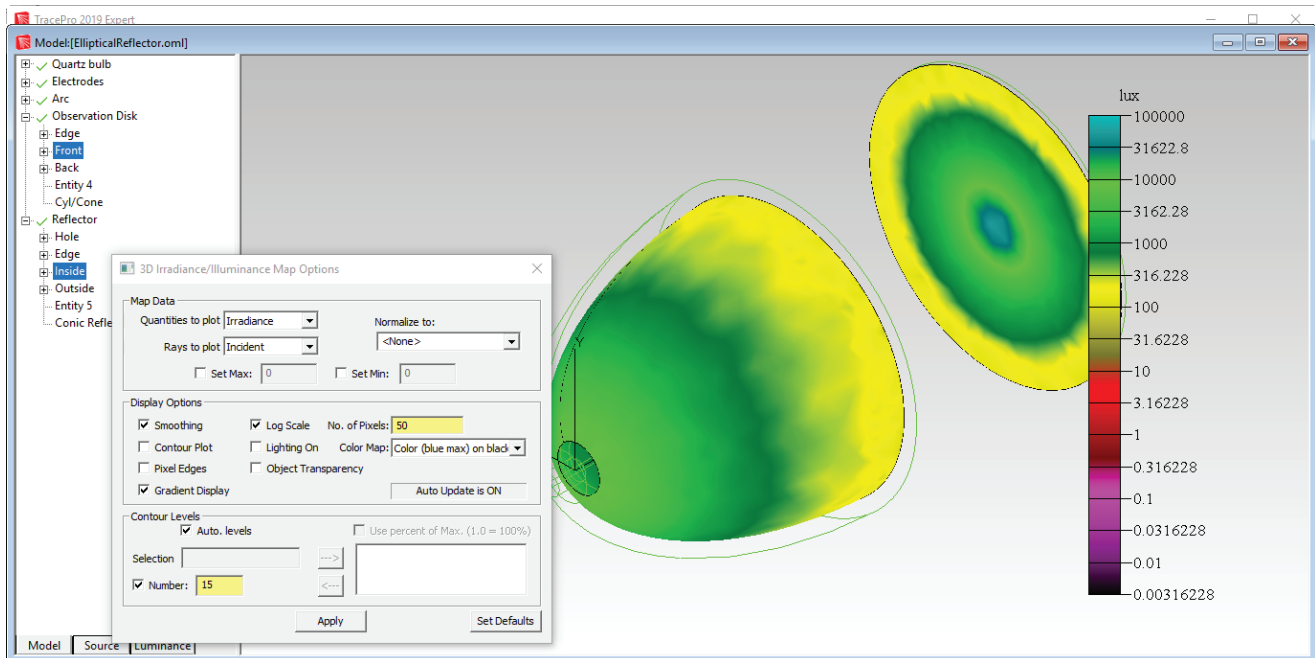

Figure 16. 3D Irradiance/Illuminance Map of the Elliptical Reflector model.
2. Select the Observation Disk | Front surface and Reflector | Inside surface in the system tree as shown in Figure 16 use Ctrl-click to select the two surfaces.